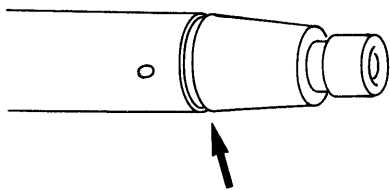

Fig. 1
- Make sure that the small ring groove (on the crankshaft tapered end) is in good condition (fig. 1).